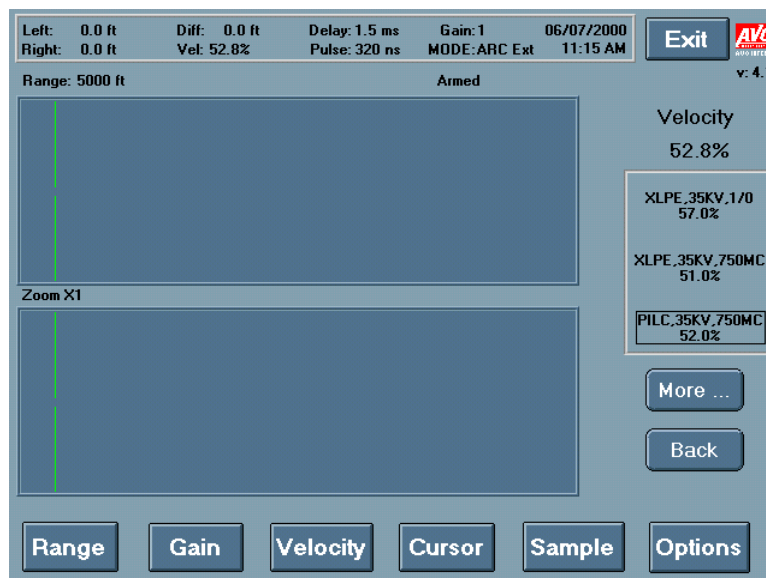

Figure 6-17c Velocity Table screen (ARC Extended Mode)
- To open a window showing cable descriptions and their corresponding velocities (Figure 6-17c), press **Table**.